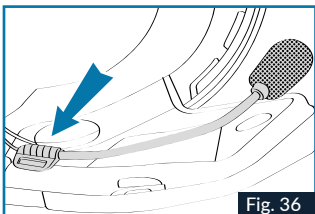

Fig. 36
5. Position the microphone and attach it with the supplied Velcro piece to the polystyrene on the left cheek as shown in Fig. 36.